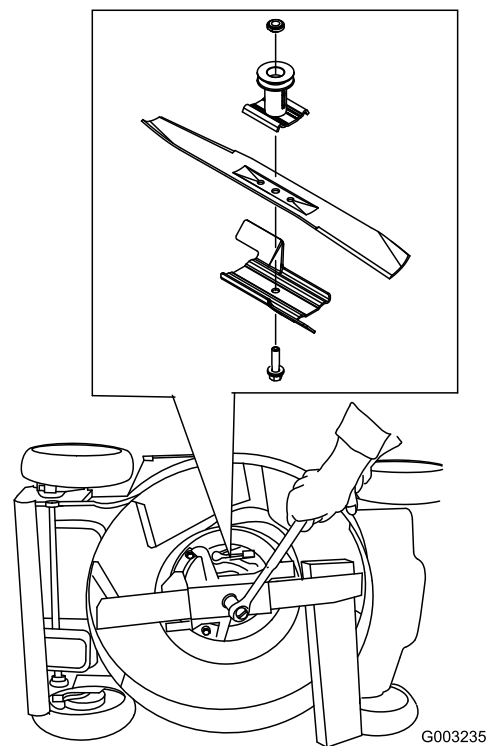

Figure 38
3. Use a block of wood to hold the blade steady (Figure 38).